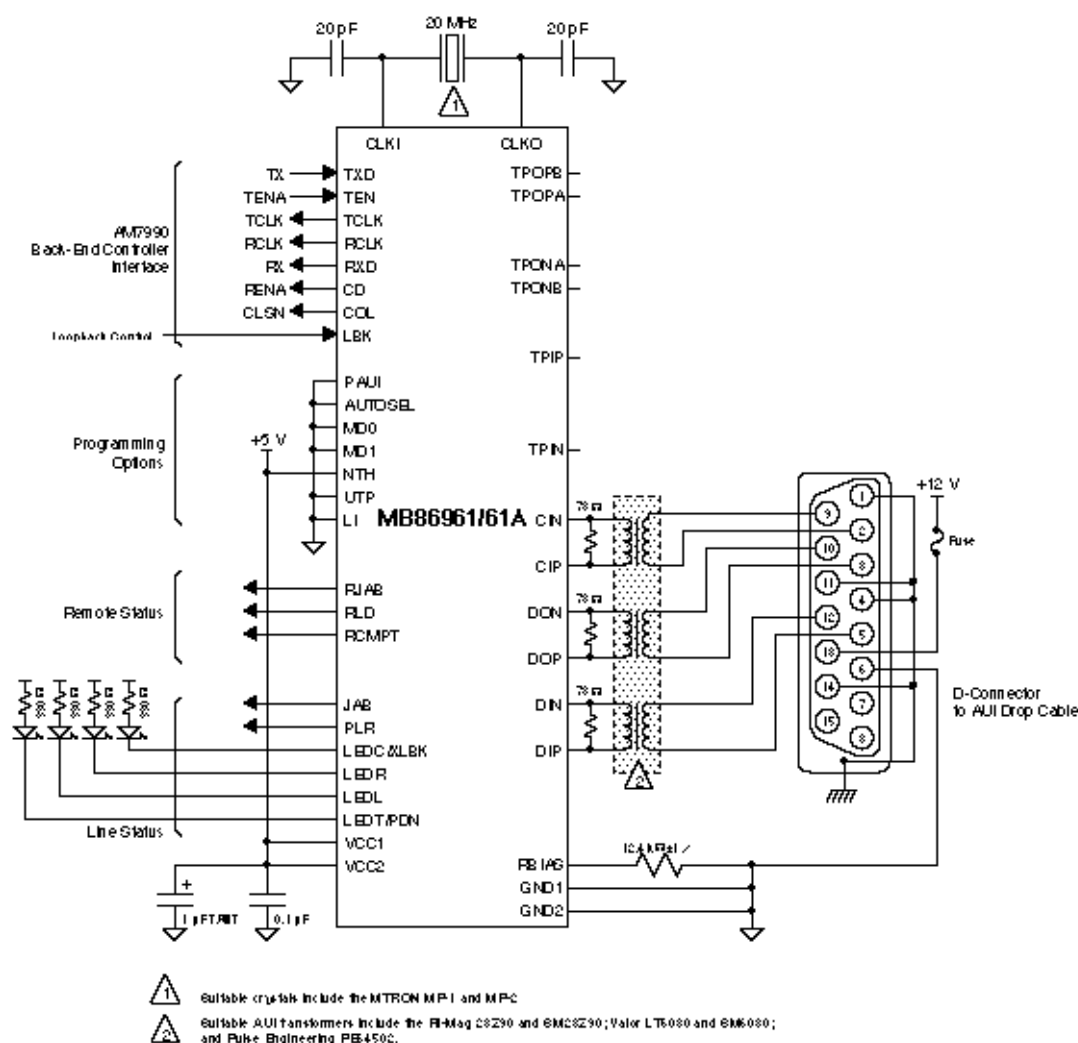

Figure 5. AUI Encoder/Decoder Only Application
In this application the DTE is connected to a coaxial network through the AUI. AUTSEL and PAUI are both tied to ground, manually selecting the AUI port. The twisted-pair port is not used. With MD1 and MD0 both grounded, the MB86961 (A) logic and framing are set to Mode 1 (compatible with AMD AM7990 controllers). The LI pin is tied low, disabling the link test function. The LBK input controls loopback. A 20 MHz crystal connected across CLK1 and CLK0 provides the required clock signal. (See Figure 5.)